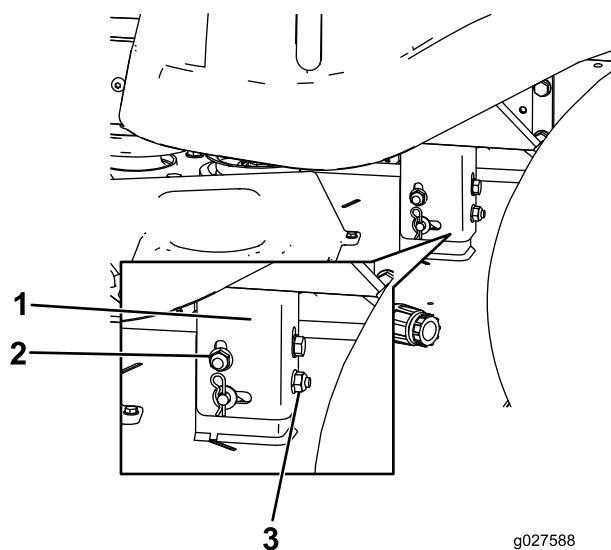

Figure 66
8. Raise or lower the left side of the mower deck by rotating the rear nut (Figure 66).
Note: Rotate the rear nut clockwise to raise the mower deck; rotate the rear nut counter-clockwise to lower the mower deck. (Figure 66).